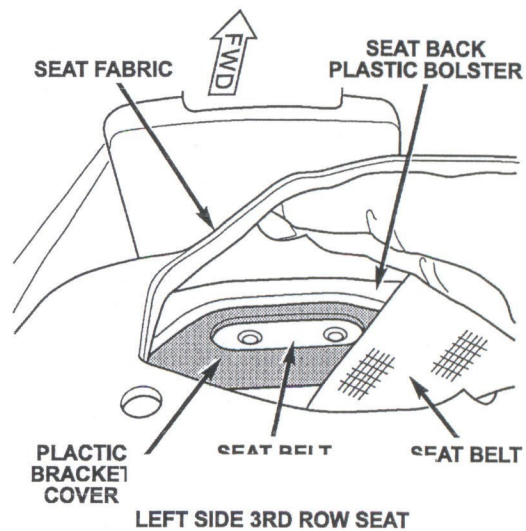

Figure 3 – LEFT SIDE SHOWN
7. Slide the plastic bracket cover rearward and tuck the front corners of the plastic bracket cover underneath the seat back plastic bolster as shown in Figure 3.
33. Install seat belt bracket cover (**PN CEC0F040**) over the retractor retainer bracket (Reference Figure 3).